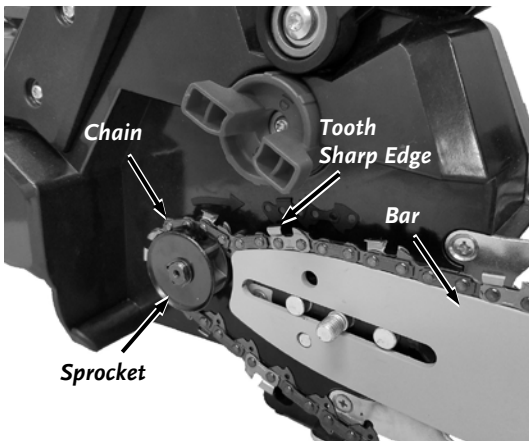

Figure 8
5. Feed the Chain onto the Sprocket and Bar with the sharp Tooth edge (on the top side of the Bar) facing forward (**Figure 8**). Start from the Sprocket and work clockwise feeding the Chain around the Bar.